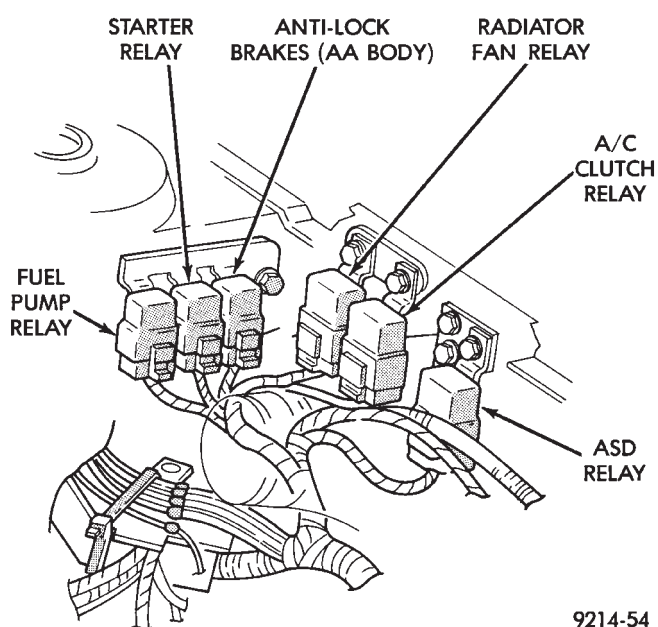

Fig. 12 Relay Identification—AA and AP Bodies
(17) Ensure relay and battery connections are clean and tight (Figs. 12, 13, and 14).